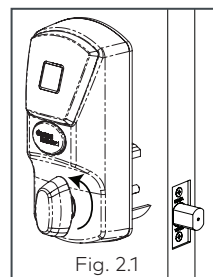

Fig. 2.1
4. Turn outside thumbturn, the deadbolt must not retract. See Fig. 2.1.